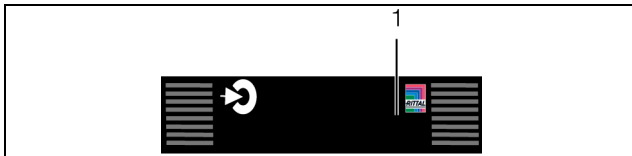
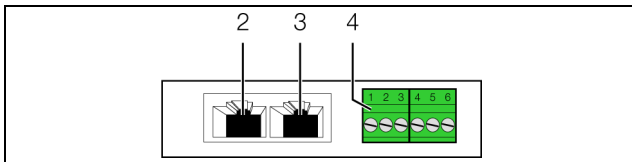

Fig. 8: Front of the universal sensor
Fig. 9: Rear of the universal sensor
A multi-LED for the status display is integrated into the front of the universal sensor (fig. 8, item 1). Further LEDs are located at the rear on the CAN bus connection (fig. 9, item 2 and item 3).